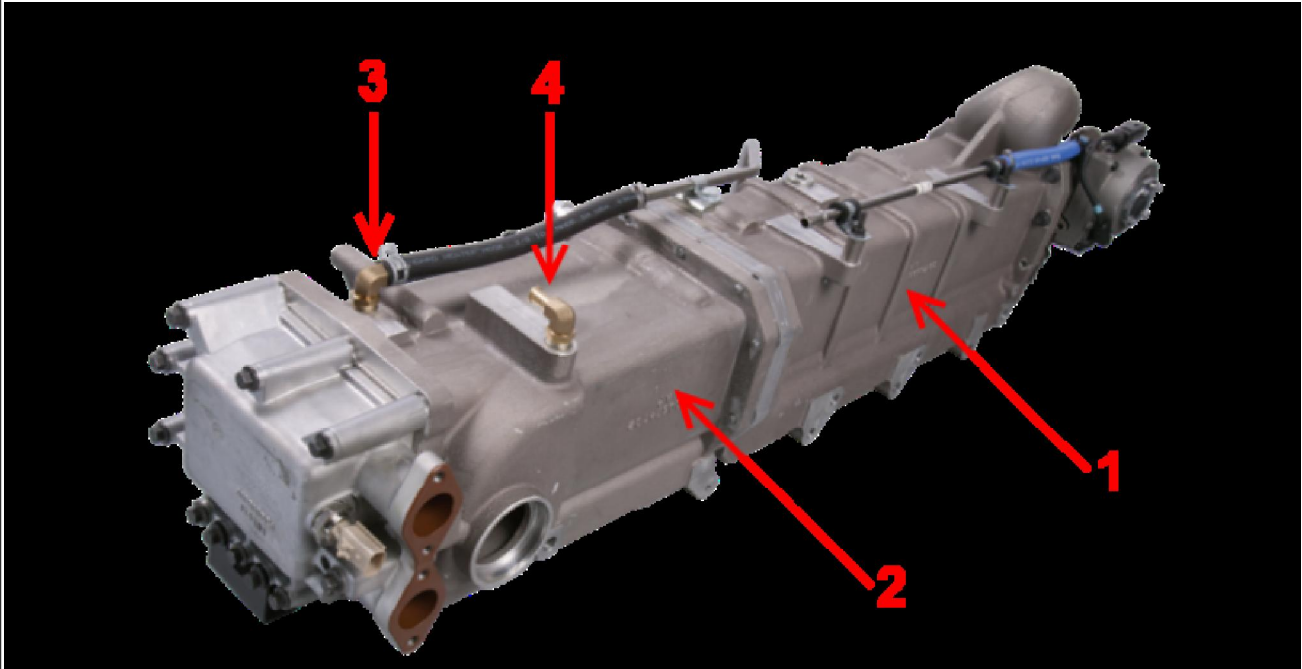

Figure 1: 2010 MaxxForce 11/13 EGR Cooler Assembly
- An **internal** coolant leak in the Low Temp EGR cooler (reference **Figure 1** below for the cooler assembly notation), or